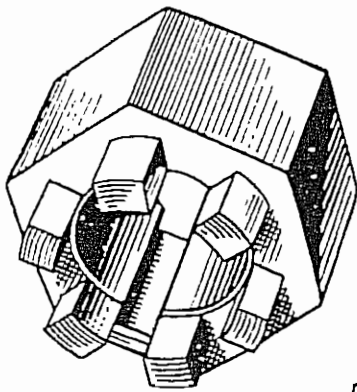
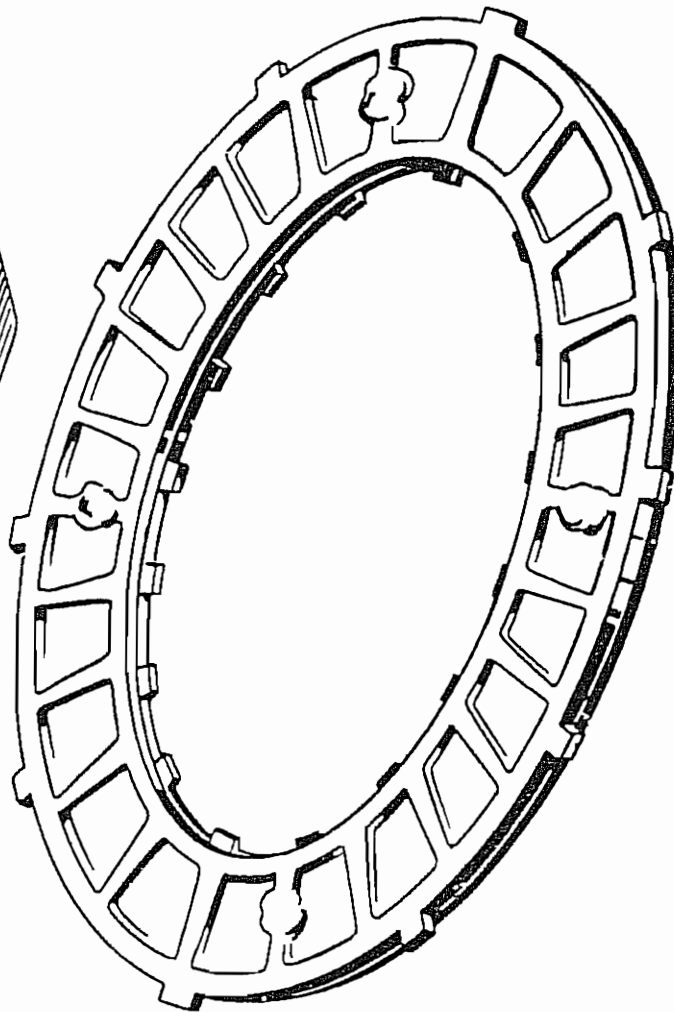

Fig. 32 (above)
Fig. 33. CLUTCH LOCKING TOOL
**Removing the Shock Absorber Rubbers.** Engage the clutch locking tool (See Fig. 33) in the clutch housing and clutch centre. Slide the driveshaft adaptor, Part No. Z90 (Fig. 32) onto the engine mainshaft, engaging the "dogged" end into the exposed sprocket splines. On the 6T model the mainshaft nut must be replaced to keep the adaptor in position for the next operation. Place a suitable spanner onto the adaptor hexagon so that the mainshaft can be rotated anti-clockwise to compress the other rubbers. Ease the rebound rubbers out and then release the pressure on the spanner when the drive rubbers can be removed.
**Clutch to Mainshaft Nut.** First lock the clutch housing to the clutch centre by inserting the tool illustrated in Fig. 33. Bend back the locking washer tab and then place a good box spanner on the nut and shock it loose by striking the spanner tommy bar a few sharp blows with a hammer. Unscrew the nut and remove the plain and lock washers.